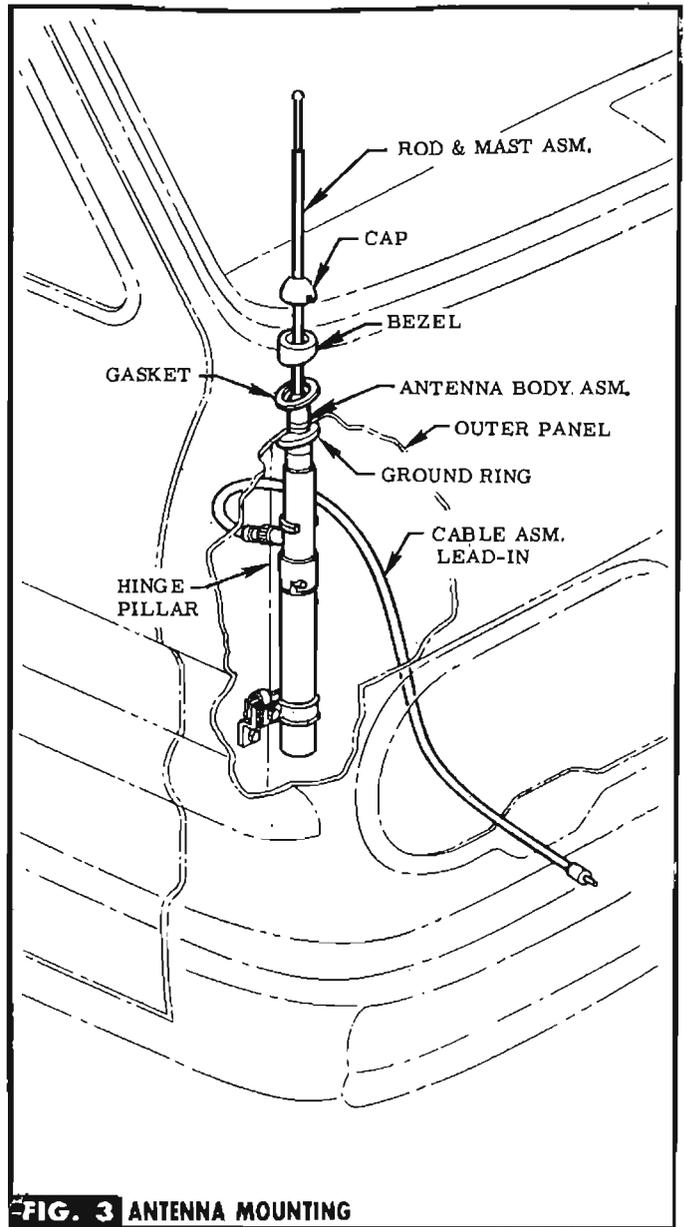

FIG. 3 ANTENNA MOUNTING
STEP 7 ATTACH CABLE ASM. TO ANTENNA BODY. INSERT ANTENNA ASM. THRU HEADLAMP OPENING & UP THRU HOLE IN OUTER PANEL. TURN ANTENNA ASM. SO THAT CABLE COUPLING IS TO R. H. SIDE OF CAR & NEARLY TOUCHES HINGE PILLAR. ROUTE CABLE ABOVE COUPLING & BEHIND ANTENNA. ALIGN GROUND RING TO BEAR UNIFORMLY ON PANEL INSIDE SURFACE. SEE FIG. 3.
STEP 8 HOLDING THE ANTENNA ASM. IN PLACE, SLIP GASKET, BEZEL & CAP OVER ROD & MAST ASM. & ONTO THE OUTER PANEL. ALIGN GASKET & BEZEL TO BEAR UNIFORMLY ON THE OUTSIDE PANEL SURFACE & SECURE CAP WITH SPANNER WRENCH. SEE FIG. 3.